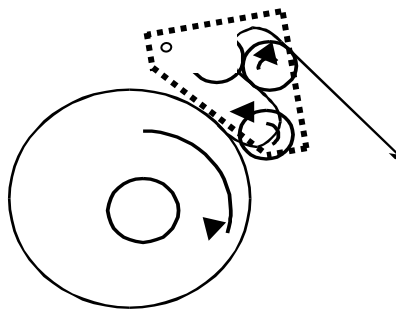

Figure 2 Plastic film in pre-stretcher
5. The plastic film must be thread as shown in figure 2, then grab the bow and lay the pre-stretch unit on to the new film roller.